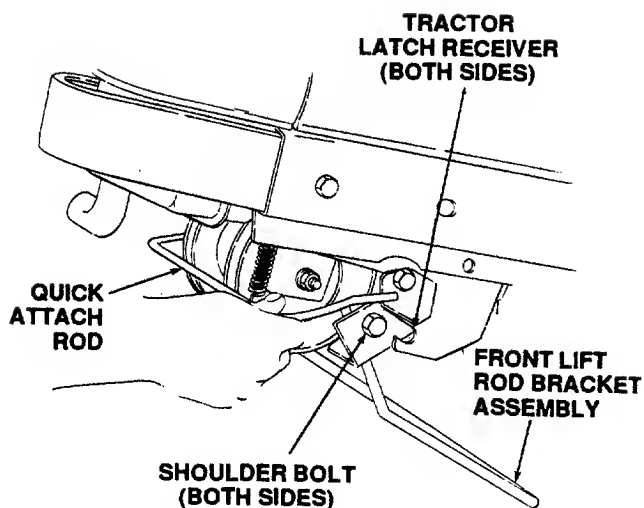

Figure 44
12. Referring to Figure 44, push downward and hold the tractor quick-attach rod. Slide the left and right shoulder bolts of the front lift rod bracket assembly forward, and free of, the left and right tractor latch receivers. Release the tractor quick-attach rod.